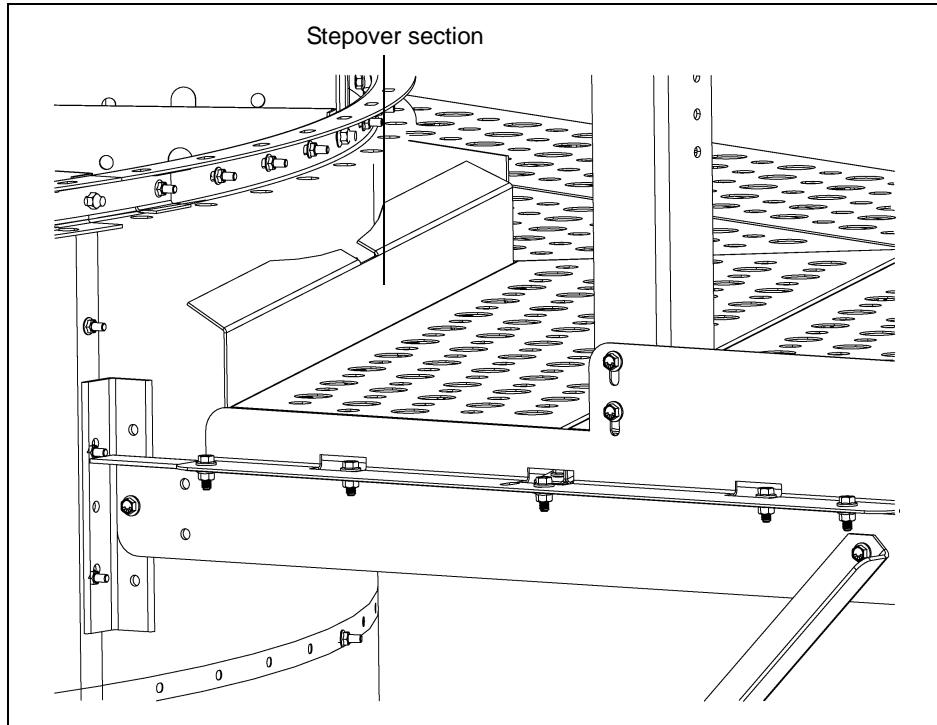

Figure 8Z
14. Install the catwalk plank with the curved kick plate at the stepover point immediate beside ladders. This is an added safety feature to help prevent feet from being wedged between the catwalk and the dryer wall when stepping over or off a ladder. (See Figure 8Z.) This is the stepover section immediately beside a ladder. Use ladder brackets for placement guidance.